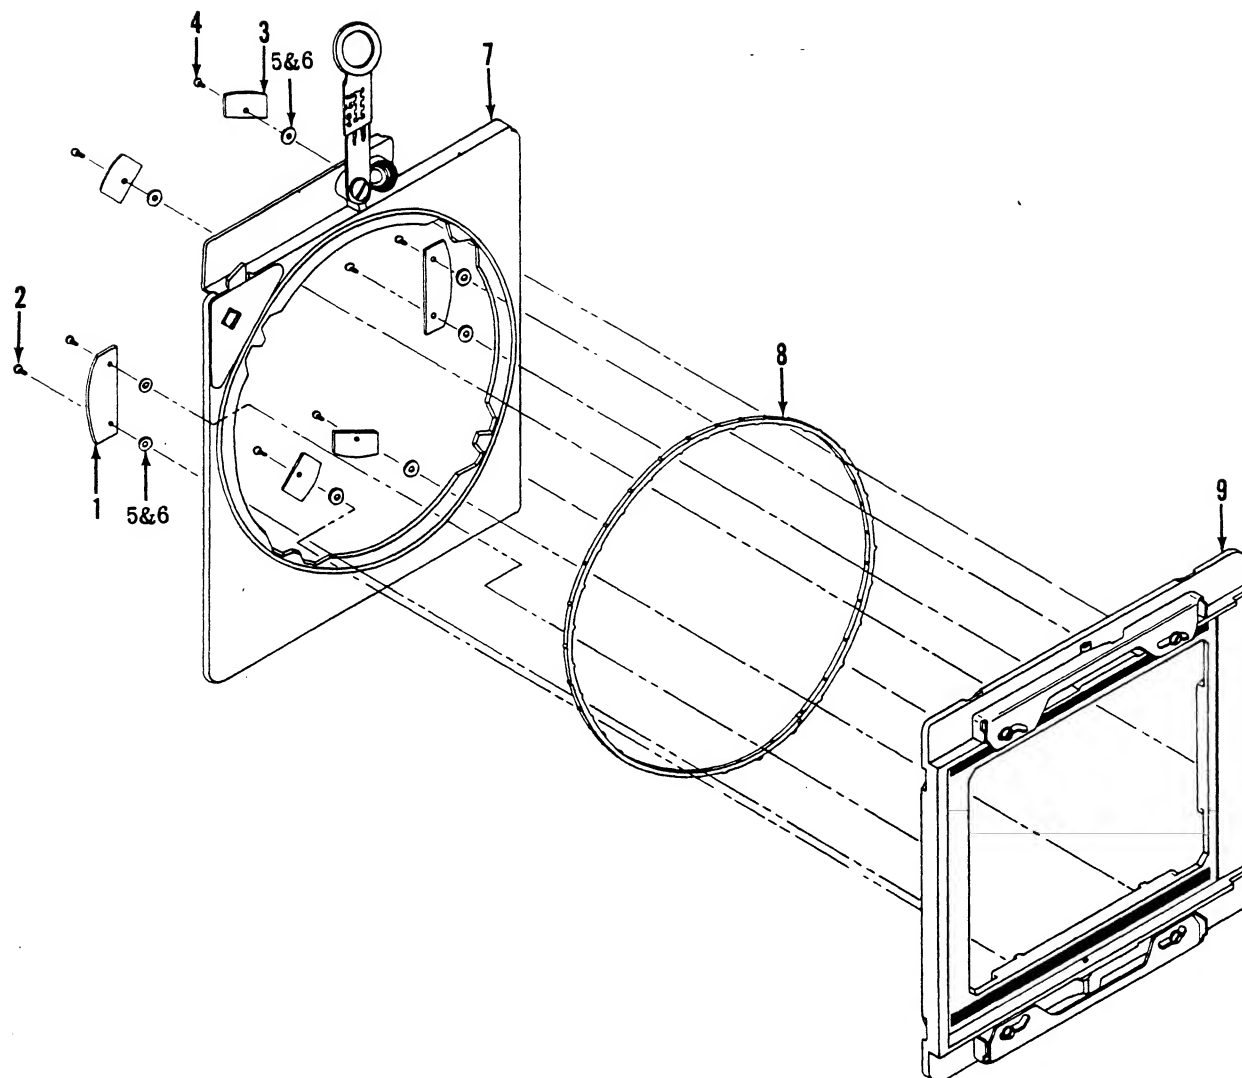
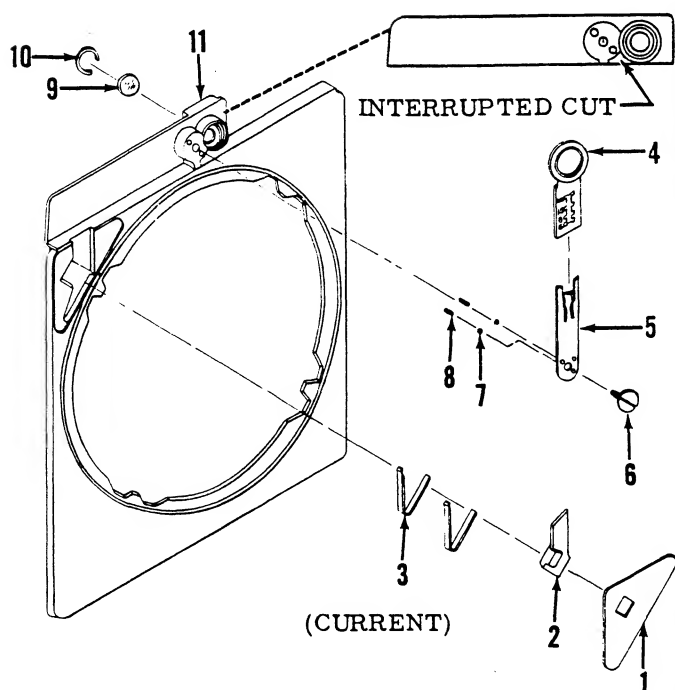
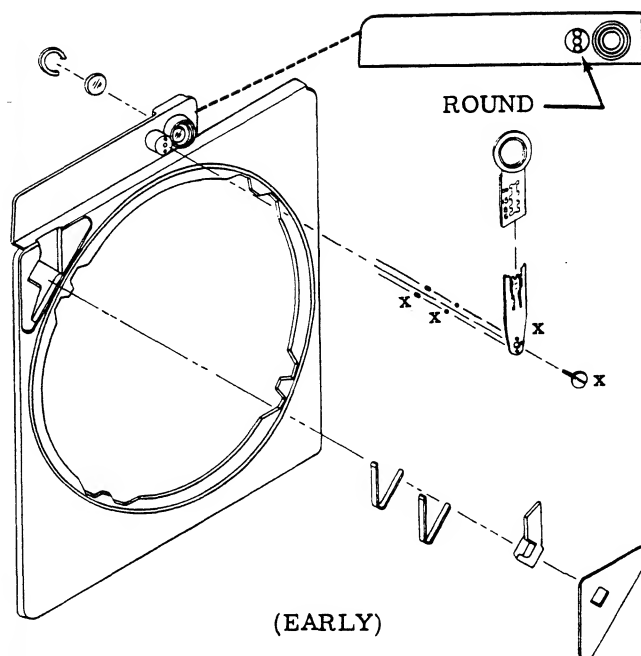

Figure 12. BACK ASSEMBLY
Figure 12A. STATIONARY FRAME COMPLETE
Figure 12B. STATIONARY FRAME COMPLETE
X..BACK ASSEMBLY - DISASSEMBLY AND REASSEMBLY (Figure 12)
a. Remove four machine screws (2), four machine screws (4), two retainers (1), four retainers (3), washers (5 & 6, used as required), and stationary frame complete (7). If disassembly of the stationary frame complete is necessary, see Par. X. 1.
b. Remove revolving ring (8) from grooved track of the revolving frame complete (9). If disassembly of the revolving frame complete is necessary, see Par. X. 2.
NOTE: A change has been made on the stationary frame as illustrated in figures 12, 12A & 12B. Disassembly and reassembly procedures remain the same. Items marked x in figure 12B are not interchangeable with corresponding items in figure 12A. When ordering replacement parts, refer to the correct parts list.
X. 1. STATIONARY FRAME COMPLETE - DISASSEMBLY AND REASSEMBLY (Figure 12A)
a. Remove cemented release button cover (1). Remove release button (2) and two button springs (3) from cavity in stationary frame.
b. Remove peepsight assembly (4).
c. Remove peepsight carrier (5) by removing machine screw (6), two steel balls (7) and two carrier springs (8).
d. Remove rear window (9) from stationary frame assembly (11) by removing retaining ring (10).
a. Assemble rear window (9) and retaining ring (10) in stationary frame assembly (11).
b. Insert two carrier springs (8) into two small holes in boss of stationary frame for carrier peepsight mounting. Apply a light coat of Dow-Corning #44 Silicone grease to two steel balls (7) and place a ball over each carrier spring. Apply paraffin to two sides of peepsight carrier (5) and apply Neolube to underside of head of machine screw (6). Position peepsight carrier in place and secure with machine screw.
c. Assemble peepsight assembly (4) to peepsight carrier.
d. Assemble two button springs (3) in cavity of stationary frame. Apply a light coat of Dow-Corning #44 Silicone grease to release button (2) and position in place. Apply 3M 776 adhesive to area around cavity opening in stationary frame, keeping within .050 in. from edges of cavity. Assemble release button cover (1) and remove excess adhesive.